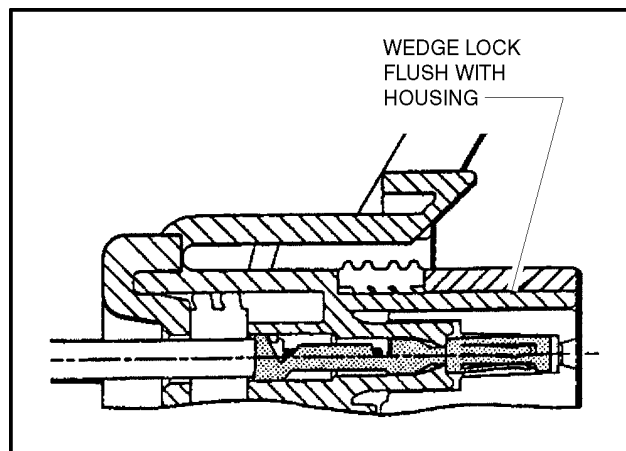

Figure 6-9. Connector Assembly (4 of 4)
4. Slide the wedge lock into the housing until it is flush with the housing (See Figure 6-9. Connector Assembly (4 of 4)).